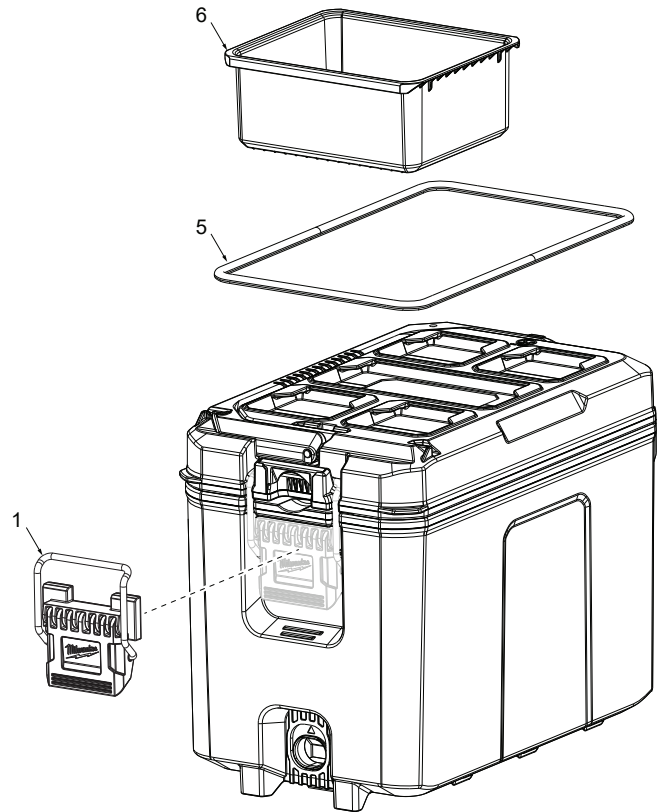

Fig.1
2. Insert a flathead screwdriver in-between latch assembly and PACKOUT base to pry over the tabs. (Fig.1)